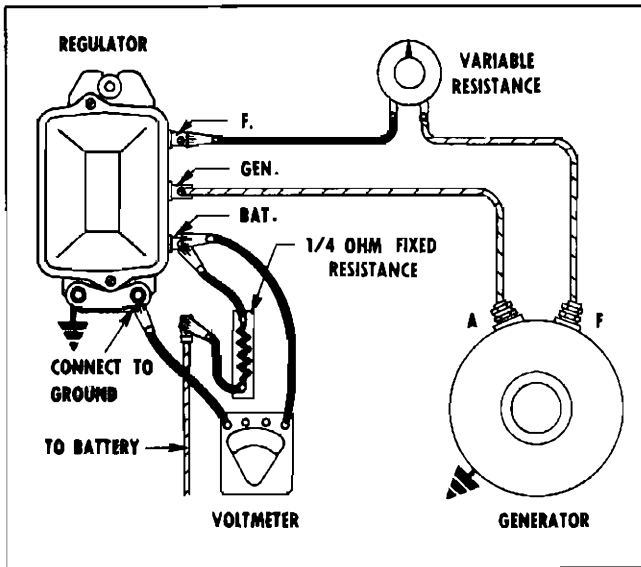

Fig. 11-33 Connections for Checking Double Contact Voltage Regulator
2. Connect a voltmeter from regulator "BAT" terminal to ground (Fig. 11-33).